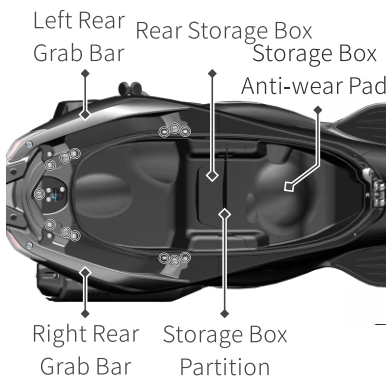

Figure1
1. Use a T25 Torx wrench and a 12# socket to remove the 13 fixing bolts marked in the red circle (see Figure 1), then remove the rear grab bar and top case bracket assembly.